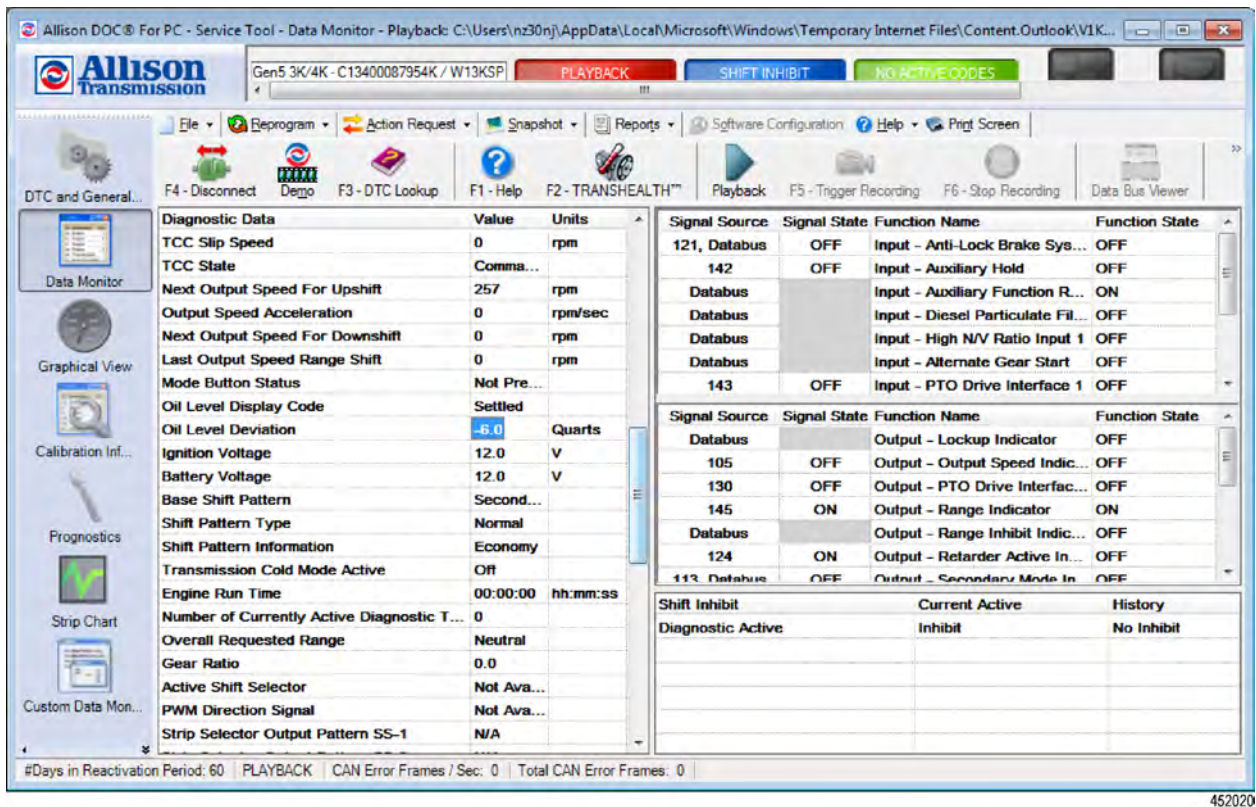

Figure 1. Oil Level Deviation Reading
- Very low (e.g. -6.0 Quarts) or no oil reading for "Oil Level Deviation" in the Data Monitor tab of the Universal Allison DOC® service tool. Refer to Figure 1.